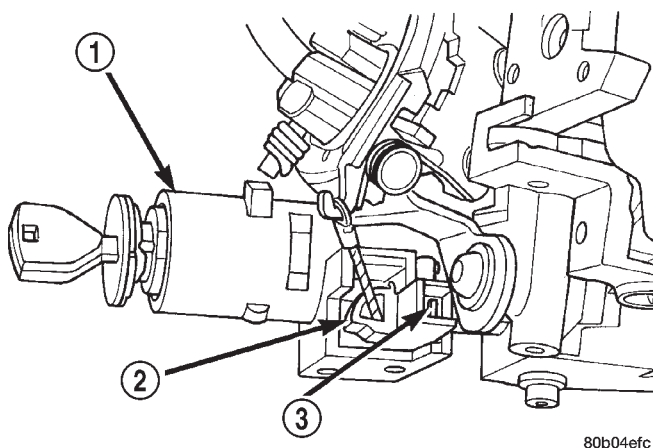

Fig. 65 Ignition Interlock Adjustment Tab—Column Shift
- (2) With the shifter in Park and the key removed, install the cable over the hook on locking arm of the shifter mechanism.
- (3) Slide the cassette into the housing until it locks in place.
- (4) To adjust the interlock system, push the adjustment tab in until it stops (Fig. 65). The adjustment tab will click as it moves into position. Ensure the tab is fully depressed.